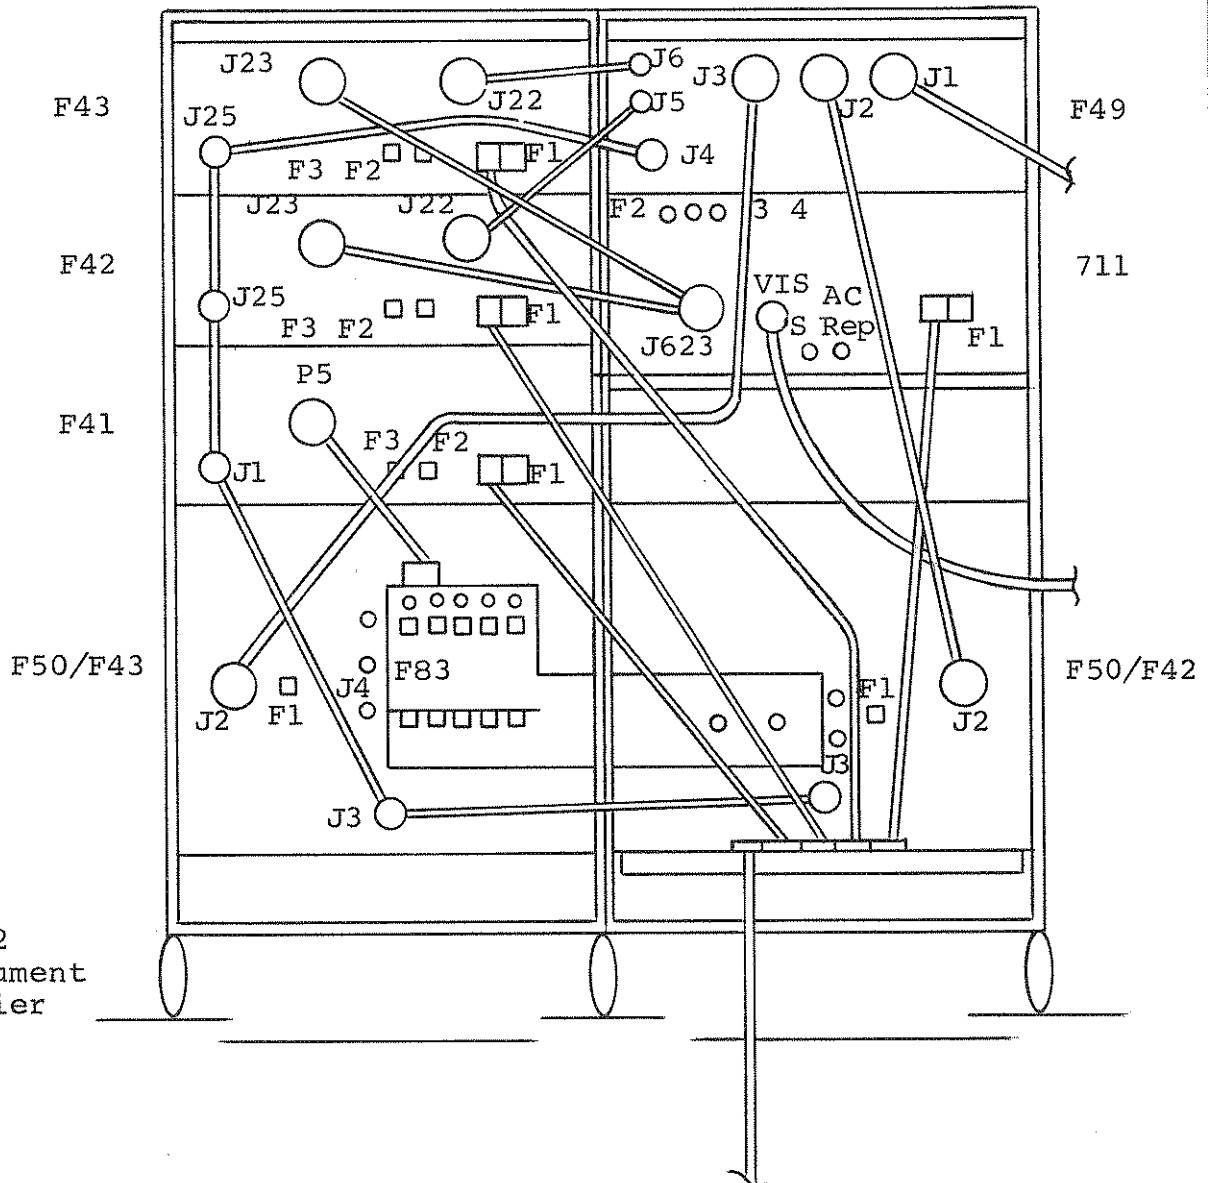

Figure 4-5
4.9.2 Installation (refer to Fig. 4-5 for rear connector locations)